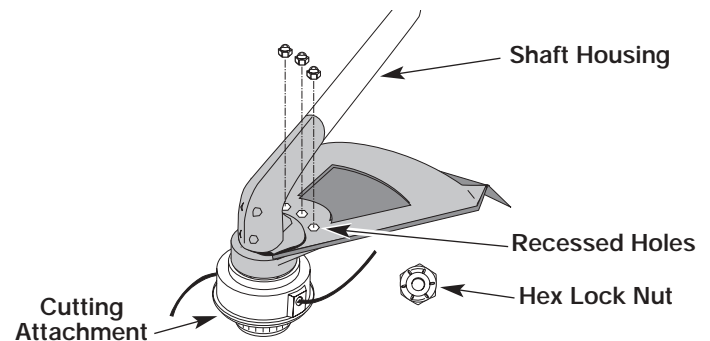

Fig. 4
2. Place one of the three (3) supplied hex lock nuts into one of the three recessed holes on the top of the cutting attachment shield (Fig 4).